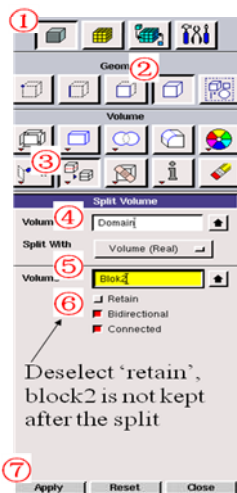

Fig. 14 Split the domain with the building 'blok2'.
(1) To imprint the buildings and the small domain into the domain, the domain has to be split by the buildings and the small domain, see Fig. 14.
(2) Repeat the steps shown in Fig. 14 to imprint all the rest of the buildings and the small domain into the domain.